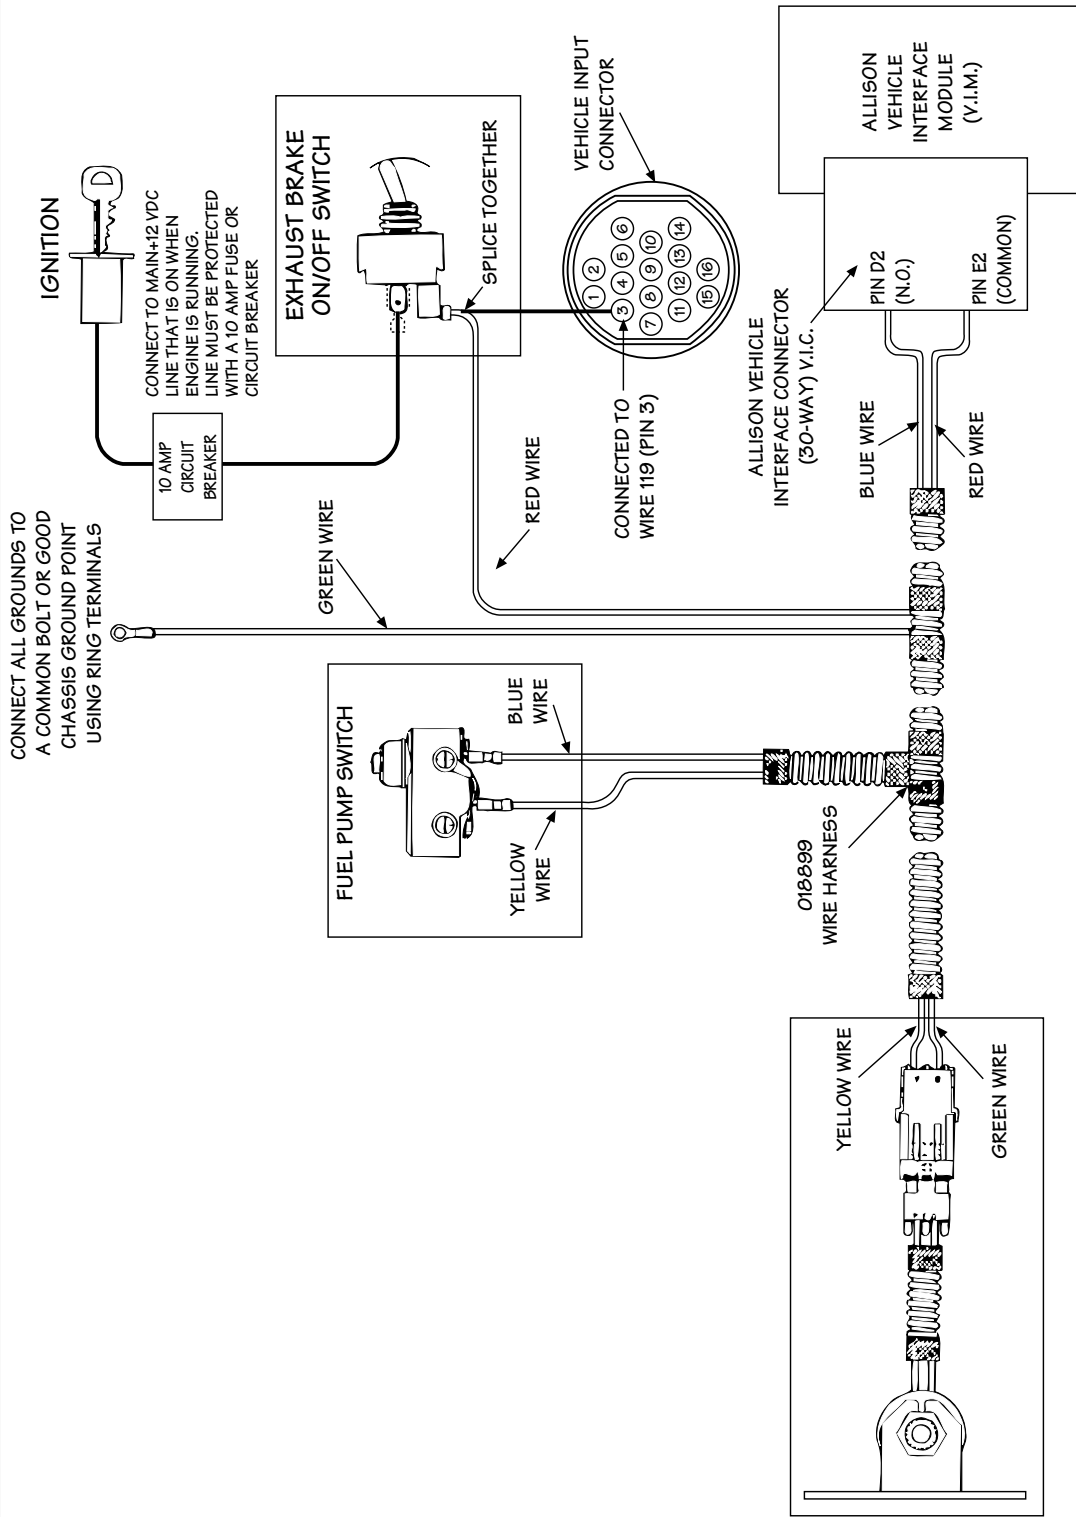

FIG. 1
3. Locate wire 119 (Pin 3) in the Vehicle Input Connector. Splice a suitable length of 16-gage wire to the output side of the exhaust brake ON/OFF switch. Connect the other end of this wire to the wire marked 119 in the Vehicle Input Connector. The preferred method of connecting to Wire 119 is to use a mating input connector. This may be accomplished either by using a fully wired connector (Allison P/N 29501001) or by using a connector shell (Allison P/N 23016490) and terminal (Allison P/N 23015205) (see Fig. 1, page 2). If connections are made by splicing, all connections must be soldered and sealed with heat shrink tubing.